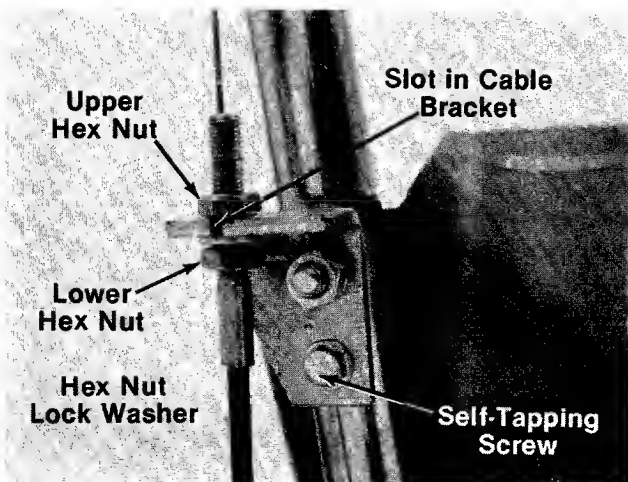

FIGURE 6.
2. Slip the cable through the slot in the cable bracket. Slide the threaded end of the cable casing up through the bracket. Rethread the hex nut onto the end of the cable casing a few turns. See figure 6.
5. Remove the self-tapping screw from the cable bracket. Remove the hex nut and lock washer from the carriage bolt, then remove the cable bracket. See figure 6.